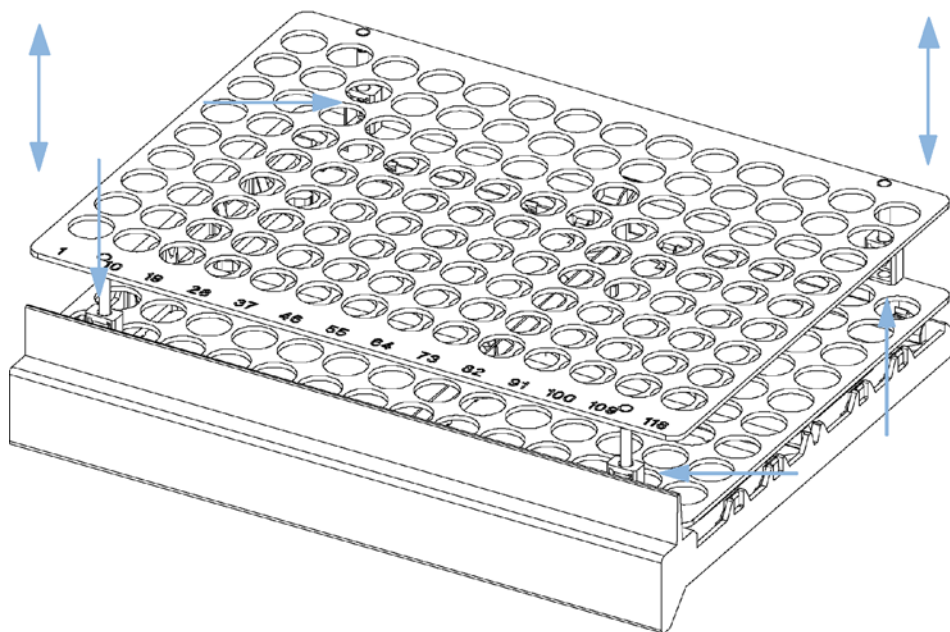

Figure 4 Adjusting the Height of the (Full) Test Tube
- 13** Install the tray that has been delivered for your fraction collector. The test tube trays can be adjusted in height, depending on the height of the used test tubes. To adjust the height of the trays, press against the snappers at the guides in the 4 corners of a tray and move the top plate of the tray up or down (see Figure 4 on page 33).
- 12** Install the tray you have ordered for your fraction collector. The test tube trays can be adjusted in height, depending on the height of the used test tubes. To adjust the height of the trays, press against the snappers at the guides in the four corners of a tray and move the top plate of the tray up or down (see Figure 4 on page 33).